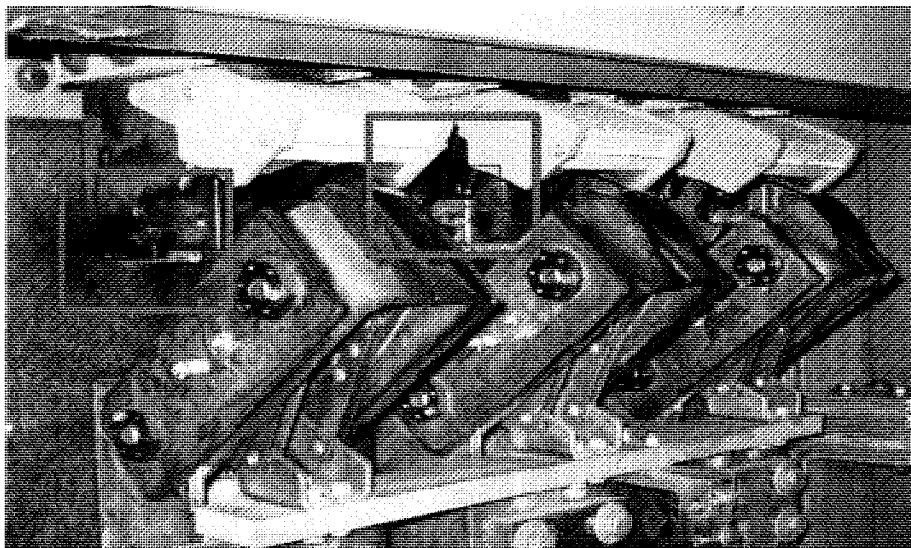

Figure 1
- 4.3.2.4 Verify that the conductors are of the correct size and type for the application. Visually check all electrical connections to the switch to be certain that such connections are clean and secure. Loose or contaminated connections increase electrical resistance, which can damage insulation and conductors and interfere with proper switch operation. Increased electrical resistance causes overheating of a connection. Such overheating is indicated by discoloration or cracks of the switch bases, discoloration or flaking of external metal parts, or melting or blistering of adjacent wire insulation. Pitting or melting of connection surfaces is a sign of arcing due to a loose or otherwise poor connection. (See Figures 1 and 2.)